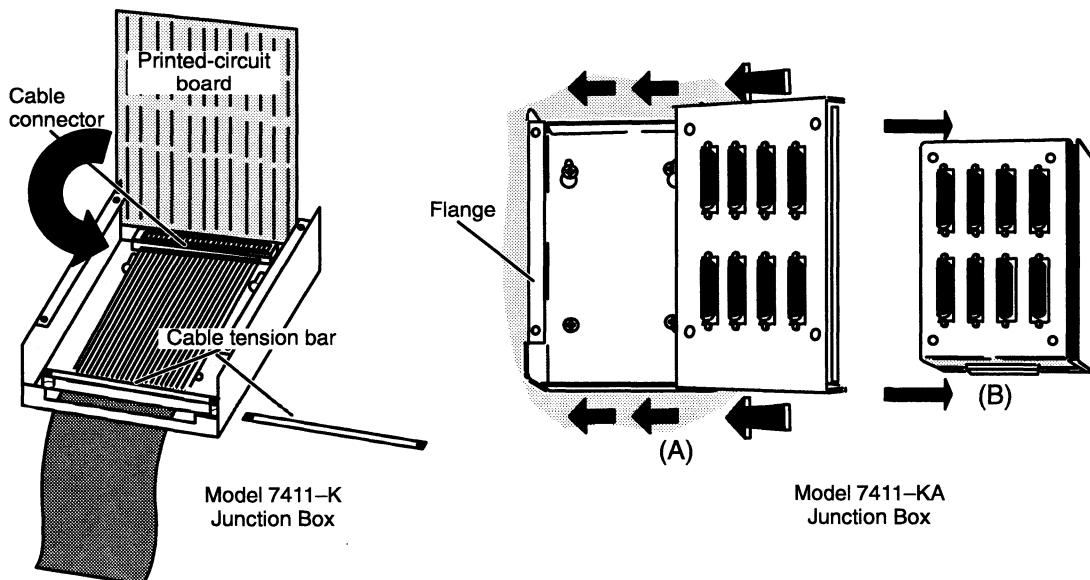

Figure D-18 Reassembling a VAC/16 Junction Box
- To reassemble a Model 7411-K J-box, refer to Figure D-18 as you place the ribbon cable and connector assembly back into the J-box base. Reinstall the cable tension bar at the point marked by your tape or paper clip, close the J-box, and secure the four corner screws.
To reassemble a Model 7411-KA J-box, refer to Figure D-18 as you slide the top (connector) assembly sideways to fit under the flange on one side (A). Pull the top slightly back until the printed circuit board fits under both side flanges, and the sheet metal covering is flush on both flanges (B). Secure the four corner screws.